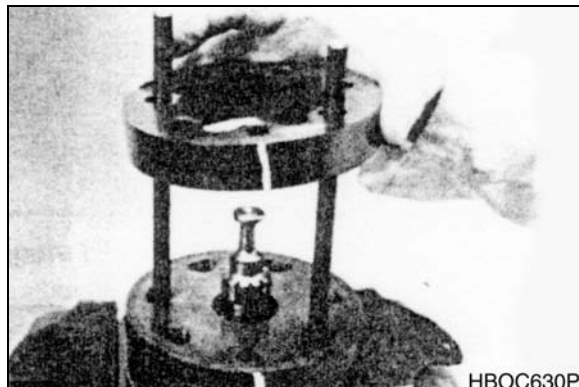

Figure 74
1. Place stator (8B) onto wear plate (9) with seal ring (4) side down, after following Torqmotor™ assembly procedures 1 through 13. Be sure the seal ring is in place. See Figure 74.
2. If assembly alignment studs are not being utilized, align stator bolt holes with wear plate and housing bolt holes and turn two bolts (1) fingertight into bolt holes approximately 180 degrees apart to retain stator and wear plate stationary.